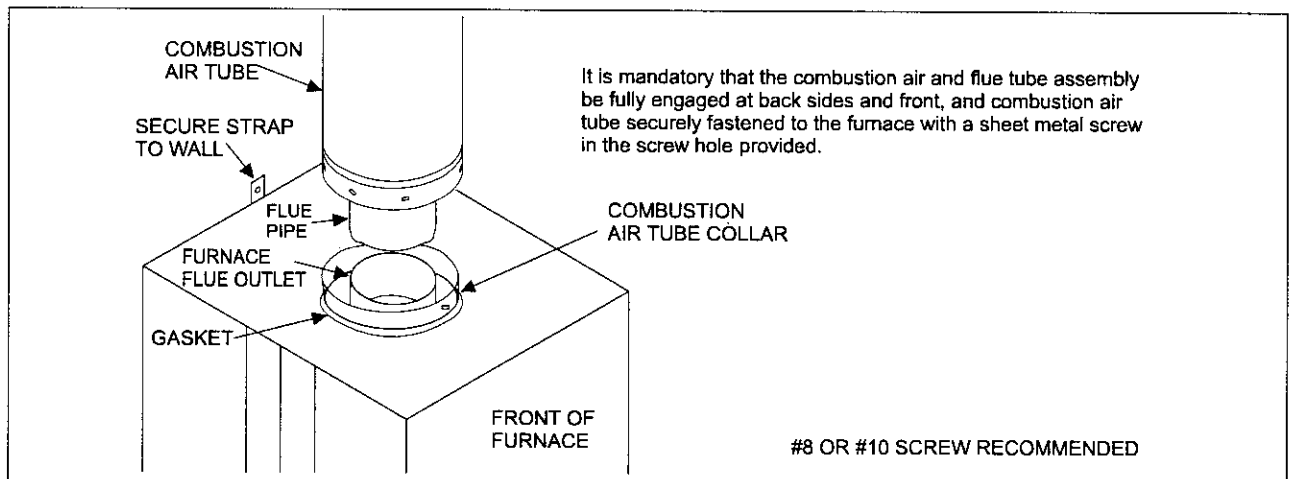

FIGURE 14 : Connecting Roof JACK to Furnace
2. Pull the telescoping flue tube and combustion air tube assembly down from the roof jack. Slide the flue tube/ combustion air tube assembly down firmly over the furnace flue outlet and combustion air collar. Insure that the back, side and front of combustion air tube collar is fully engaged and is in contact with gasket. Fasten the combustion air tube to the furnace combustion air collar using a 1/2 inch sheet metal screw. (Screw hole provided in combustion air tube and furnace combustion air collar. See Figure 14.